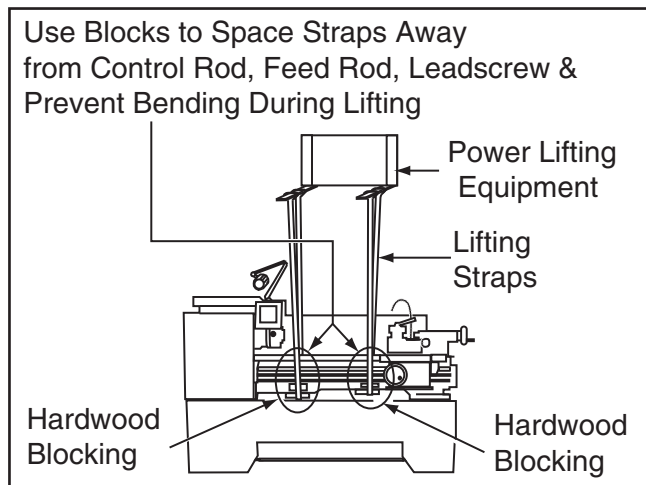

Figure 17. Example of lathe setup for lifting.
- Attach the lifting straps to the power lifting equipment (see **Figure 17** for an example).